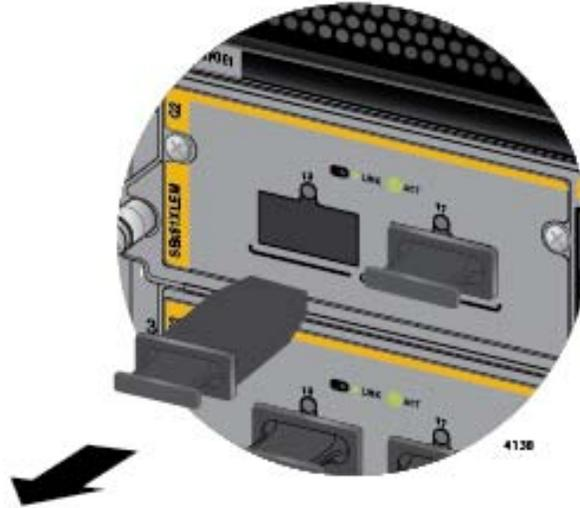

Figure 103. Removing the Dust Cover from a Slot on the AT-SBx81XLEM/Q2 Expansion Module
1. Remove the dust cover from a slot on the AT-SBx81XLEM/Q2 Expansion Module. Refer to Figure 103.
1. Remove the dust cover from a slot on the AT-SBx81XLEM/Q2 Expansion Module. Refer to Figure 103 on page 166.